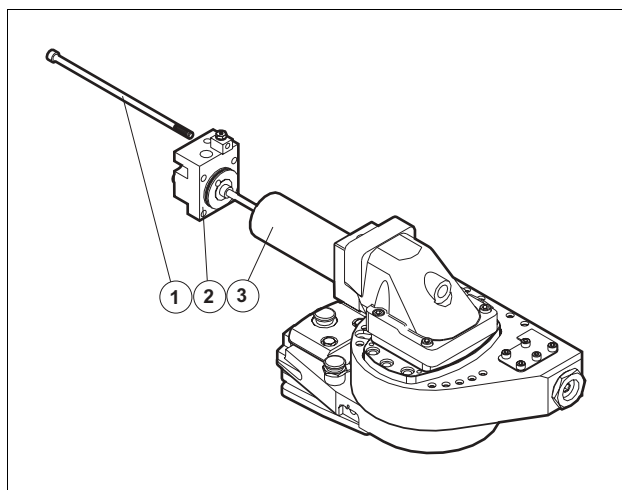
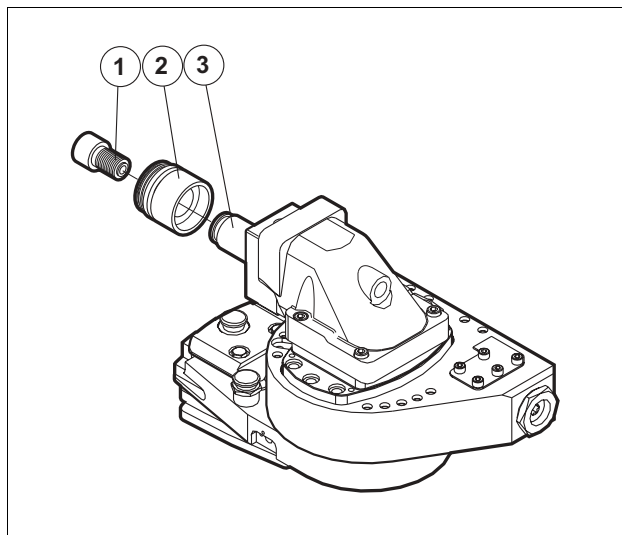

Fig. 30 Replacing Lubrication Oil Pump
Fig. 31 Replacing Lubrication Gland
See Fig. 30. Use a 8mm Allen key.
3. Gently pull out the lubrication pump(2) from the barrel (3). *See Fig. 30.*
4. Remove the barrel (3).
5. Remove the gland screw (1). Use a 19mm Allen key, *See Fig. 31.*
6. Carefully clean the gland screw (1), and apply Loc-Tite 243 on the thread.
9. Install the lubrication oil pump. *See Fig. 30.*
10. Tighten the fasteners(1), 4 pcs. *See Fig. 30.*